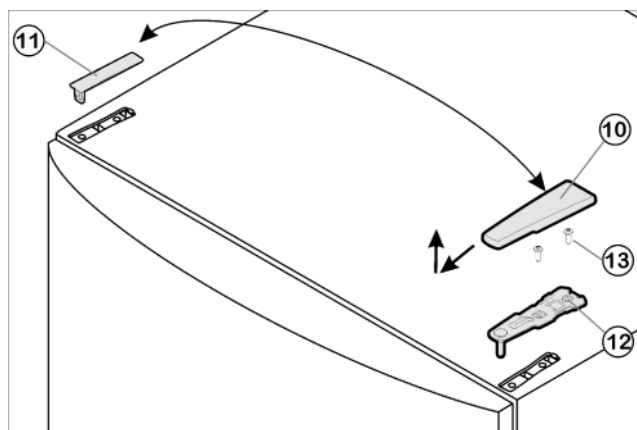

Fig. 6
- Pull off the cover Fig. 6 (10) forwards and upwards.
- Lift off the cover Fig. 6 (11).
- Unscrew the upper turn hinge Fig. 6 (12) (2x Torx® 25) Fig. 6 (13) and raise it for removal.
- Insert the upper turn hinge Fig. 6 (12) in the door on the new hinge side.
- Screw the upper turn hinge Fig. 6 (12) firmly into place (with 4 Nm) (2x Torx® 25) Fig. 6 (13). Possibly make preliminary holes with a bradawl or use a cordless screwdriver.
- Snap the cover Fig. 6 (10) and cover Fig. 6 (11) into place at the opposite side.